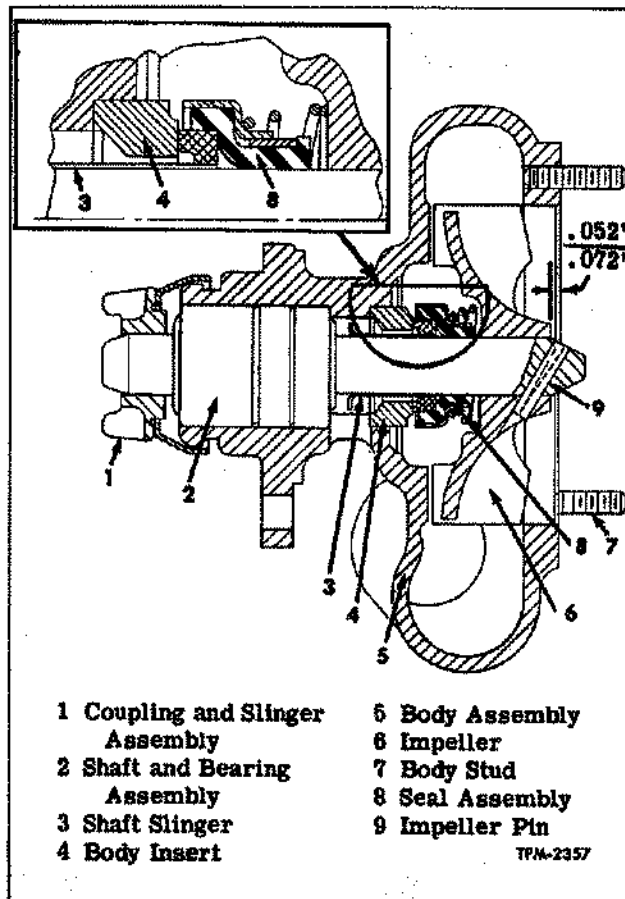

Figure 2—Water Pump Assembly
A centrifugal type water pump (fig. 2) is used for circulating the cooling liquid through the engine. A bronze impeller with straight blades is pressed and pinned onto one end of a case-hardened steel shaft, and a pump drive coupling and oil slinger is pressed onto the opposite end. Oil slinger shrouds inner end of pump body flange to prevent oil from seeping along shaft and through shaft bearing. Shaft is supported at drive end on a sealed, double-row combination radial and thrust ball bearing. Shaft is prevented from moving endwise by staking pump housing at the inner end of the bearing.
5. Press impeller onto shaft until outer face of impeller hub is .052"-.072" below face of pump body (fig. 2). Impeller must be positioned on shaft so pin hole in shaft is located midway between blades of impeller. Rotate impeller to be sure clearance exists between face of impeller blades and pump body.